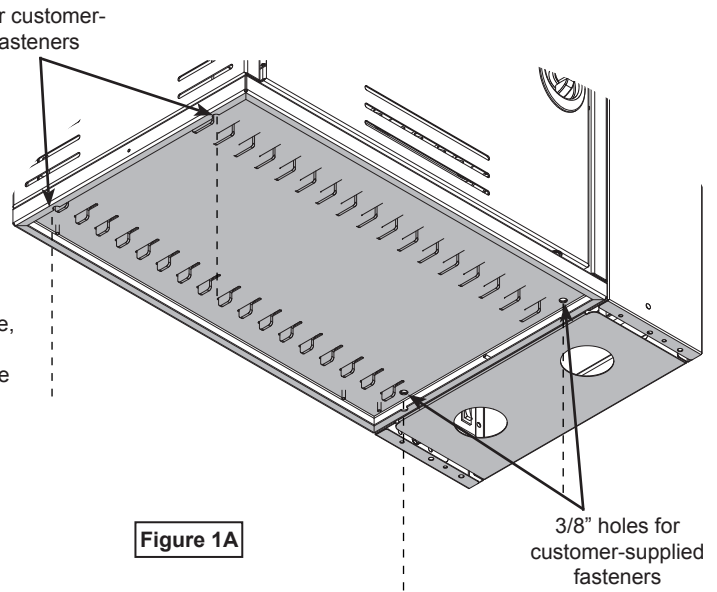

Figure 1A
2. Choose fasteners appropriate to the surface you will be attaching to. The (4) mounting holes in the bottom panel are 3/8" dia. **Figure 1A.**
3. Mark the (4) hole locations through bottom panel.